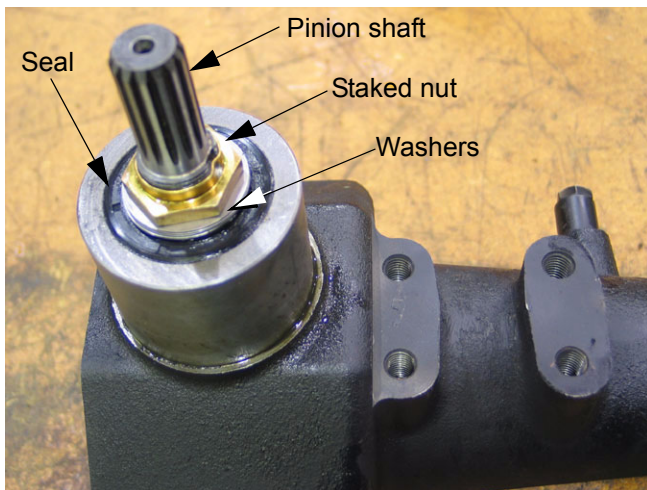

Figure 9.16
9.16. The nut that holds the pinion assembly in place is staked into position. The staking must be chiseled-out. See Figure 9.16.